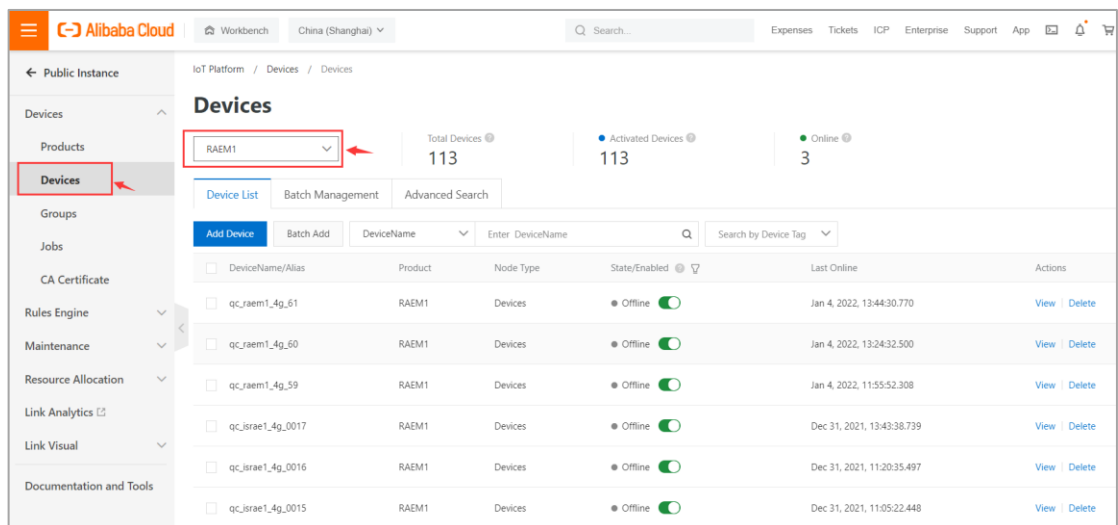

Fig. 6-24 Qingcheng Alibaba Cloud
- (2) Select “Devices” >> “Devices” in the left column (Figure 6-24). There are all devices listed below. Choose the device type “RAEM1” below the “Devices” to search for only RAEM1s. Click on the desired device name.
- (3) Choose the “TSL Data” tab and there are three modules under the “Default Module” on the left, device configuration, device Information and device data respectively. All the data are real-time display. (Figure